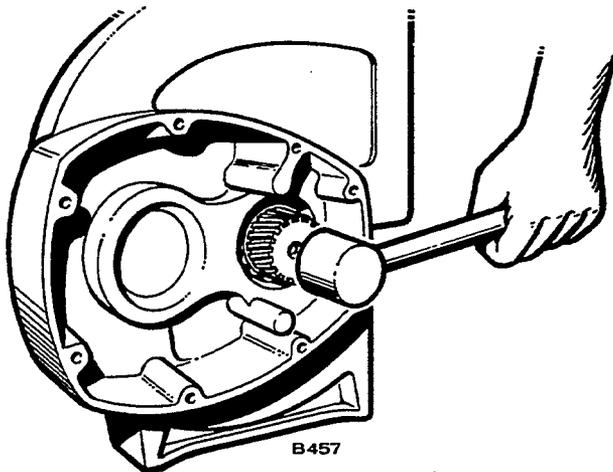

FIGURE 67. REMOVING DRIVE PINION SHAFT FROM GEAR CASE
14. If bearing, shaft, or oil seal replacement is required, hold gear case upright and tap drive pinion and shaft through gear case, Figure 67.